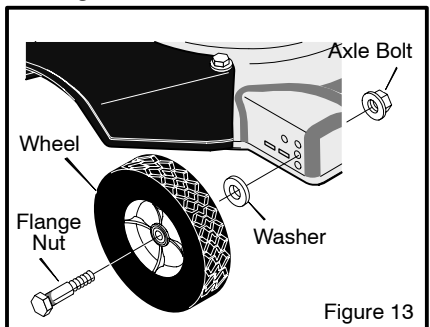

Figure 13
2. Remove the **flange nut** (Figure 13).